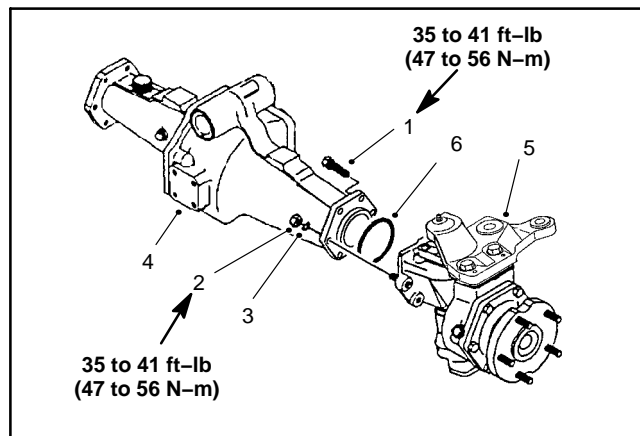

Figure 13
1. Remove the mounting screws, nuts, and lock washers. Remove the bevel gear case/axle case assembly and O-ring from the axle support (Fig. 13).